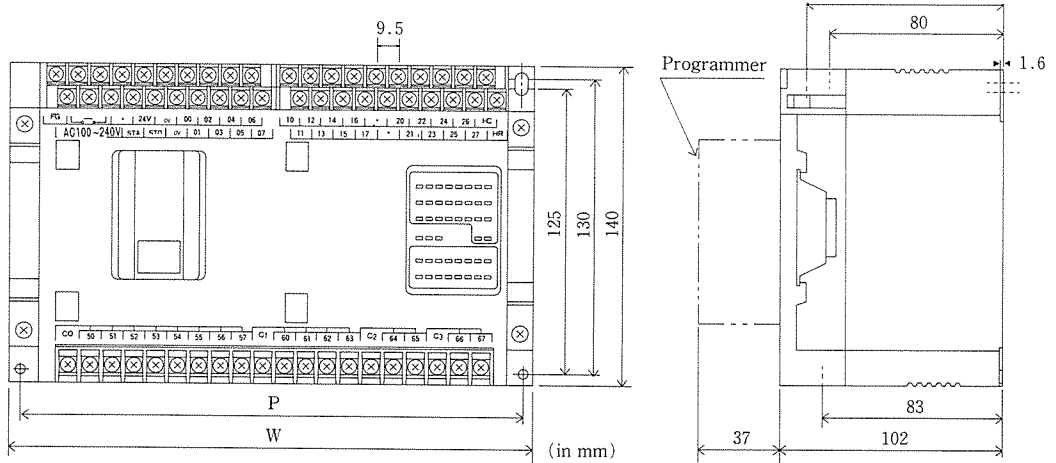
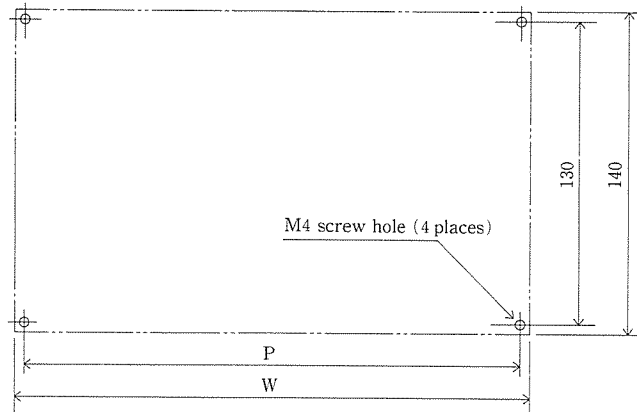

Fig. 7-1 Dimensional Diagram of Basic Unit and Expansion Unit
Fig. 7-2 Mounting Holes of Basic Unit and Expansion Unit
Fig. 7-1 shows the external dimensions of basic unit and expansion unit, while Fig. 7-2 shows the dimensions of mounting holes. The height (H) and (D) shown in the figure are common to all models. Only the width (W) and the pitch (P) between horizontal mounting holes differ from those shown in the figure according to the respective models. Table 7-1 shows the W and P values of each model.